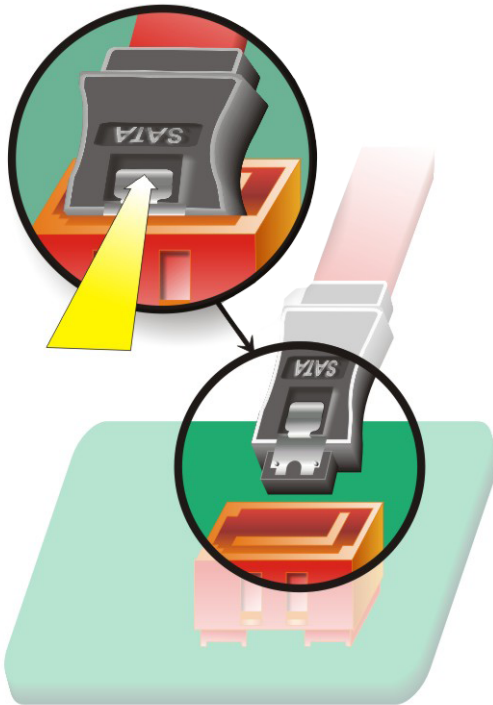

Figure 5-8: SATA Drive Cable Connection
Step 2: Insert the cable connector. Press the clip on the connector at the end of the SATA cable and insert the cable connector into the onboard SATA drive connector. See **Figure 5-8**.